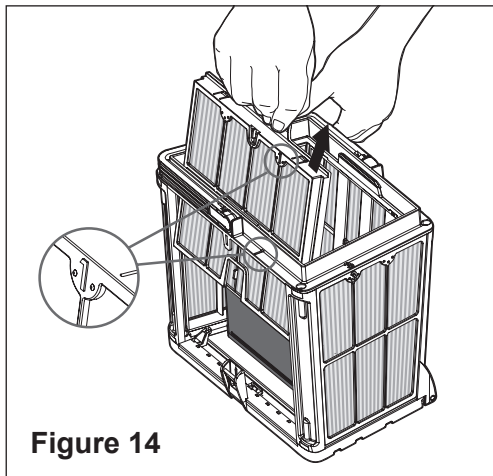

Figure 14
3. Gently remove the screen from the filter basket. See **Figure 14**.